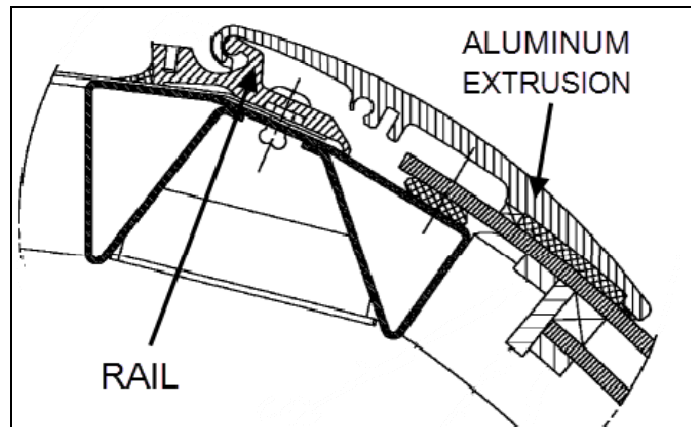

FIGURE 12
12. Install the window on the structure. Ideally, you would use suction cups (FIGURE 11) to manipulate the window. Using the aluminum extrusion already fixed to the window pane, hook the window to the rail found on the vehicle upper horizontal member (FIGURE 12). Place the window centered between the two adjacent windows before pressing the fixed window against structure. The gaps found on the right side and the left side should be equal. Wipe adhesive in excess if adhesive is visible from the outside.